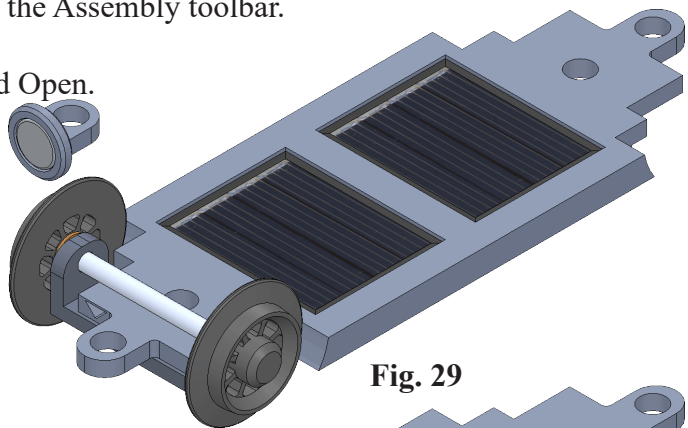

Fig. 29
Step 3. Click to place **Coupler Assembly**, **Fig. 29**.